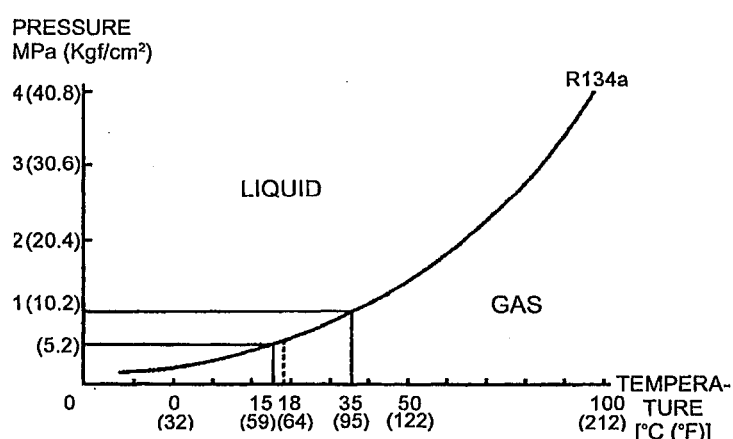

Fig.6 Pressure-temperature characteristics of R134a
##### (2) Characteristics of Refrigerant (See Fig.6.)
Fig.6 illustrates the relationships between the saturation temperature and the saturation pressure in the case of refrigerant R134a used in the air-conditioner. At the temperature and the pressure on the lower righthand side of the curve in Fig.6, the refrigerant take a gaseous state, while at the temperature and the pressure on the upper lefthand side of the curve, the refrigerant takes a liquid state.
Let us think of a case where an air-conditioner is operated in the midst of summer. As the refrigerant evaporates, it absorbs evaporation heat from the air of the compartment. In order to cool the inside of the compartment down to 25°C (77°F), the refrigerant must transform (evaporate) from a liquid to a gaseous state at a lower temperature. It can be seen from Fig.6 that R134a under a pressure above the atmospheric pressure is capable of cooling the inside of the compartment sufficiently. (If a refrigerant that requires a pressure below the atmospheric pressure to cool it to a required temperature is used, air is mixed into the circuits, thereby deteriorating the performance of the cooling unit.) In the process in which gaseous refrigerant is brought back to a liquid state, the refrigerant is cooled and condensed by the outer air exceeding 35°C (95°F). Accordingly the refrigerant is capable of condensing at a pressure exceeding 10.2 kgf/cm2 (145 psi), as seen from Fig.6.
In this circuit diagram, the portion that cools the air of the compartment is the evaporator. The object air is cooled off by utilizing the fact the refrigerant takes heat off the surrounding area as evaporation heat as it evaporates in the cooling circuit. Since the part at which vaporization of the refrigerant takes place is the evaporator, cooled air is constantly delivered to the circumference of the evaporator by the blower fan. In the meantime, liquid refrigerant (slightly wet vaporized refrigerant) is fed into the evaporator, when "cooling" effect is attained. For instance, in order to cool the air to 15°C (59°F), the refrigerant can not absorb evaporation heat from the air unless it evaporates at a temperature lower than 15°C (59°F). For that purpose, it can be seen from Fig.6 that the pressure of the refrigerant in the evaporator must be less than 5.2 kgf/cm2 (74 psi).